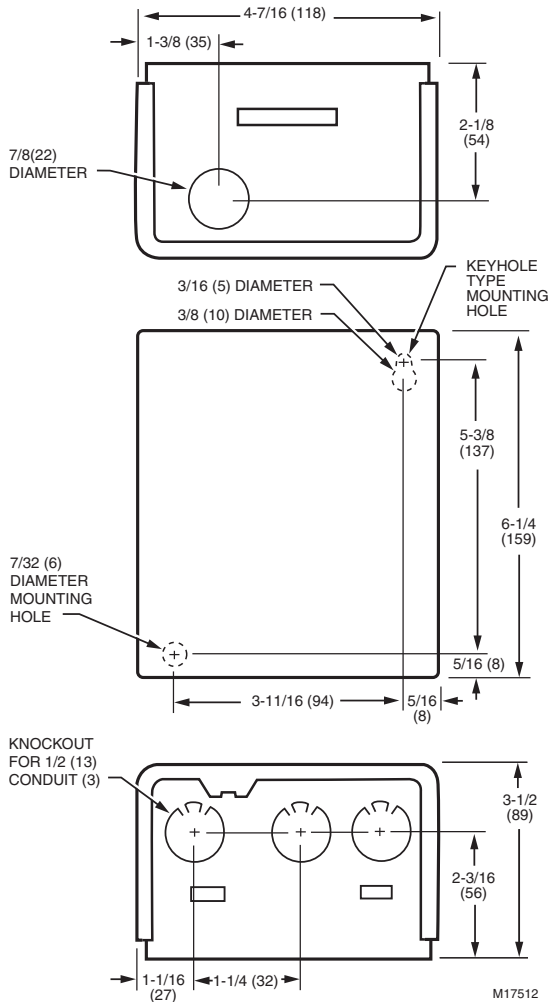

Fig. 1. R8845U dimensions in in. (mm).
Dimensions: See Fig. 1.
1. Position the relay and mark the mounting holes. See Fig. 1.